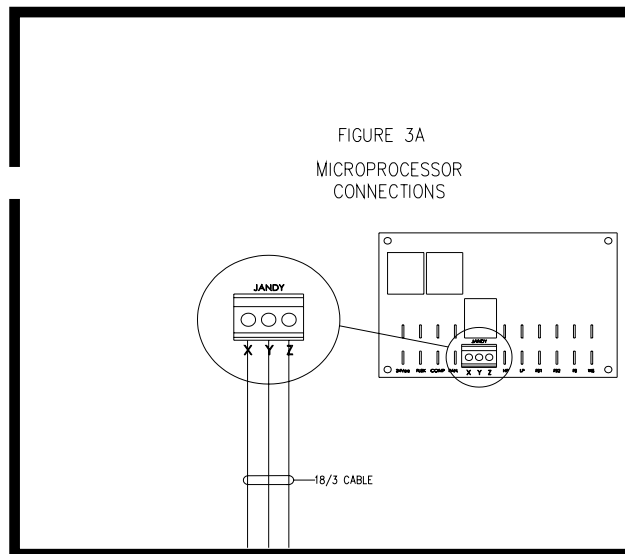

Figure 3
3. Connect the 18/3 cable from the controllers low voltage heater terminals to the **MICROPROCESSOR POWER BOARD** Jandy terminal block, terminals **X**, **Y** and **Z**. The terminals are as follows: **X** is the **HIGH/SPA** terminal, **Z** is **LOW/POOL** terminal, and **Y** is the **COM/OFF** terminal. (See figure 3 below)